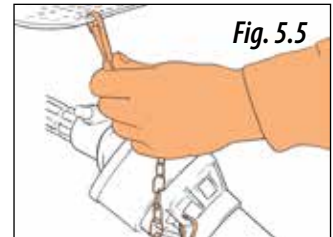

Fig. 5.5
- 5- Secure the PTO shaft to the tractor by means of the fixing chain (Fig. 5.5).